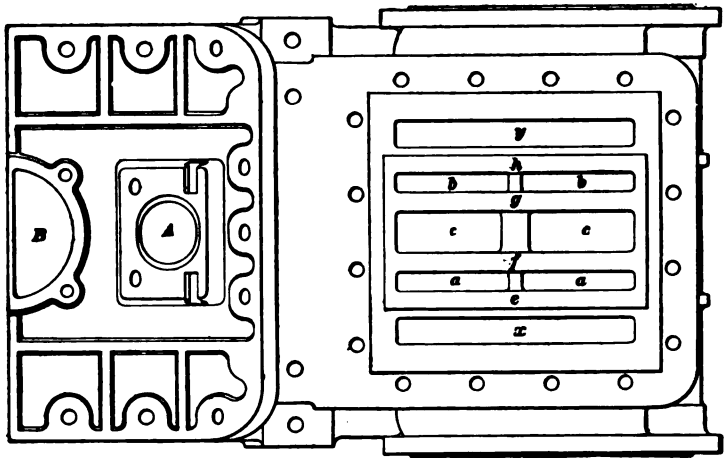
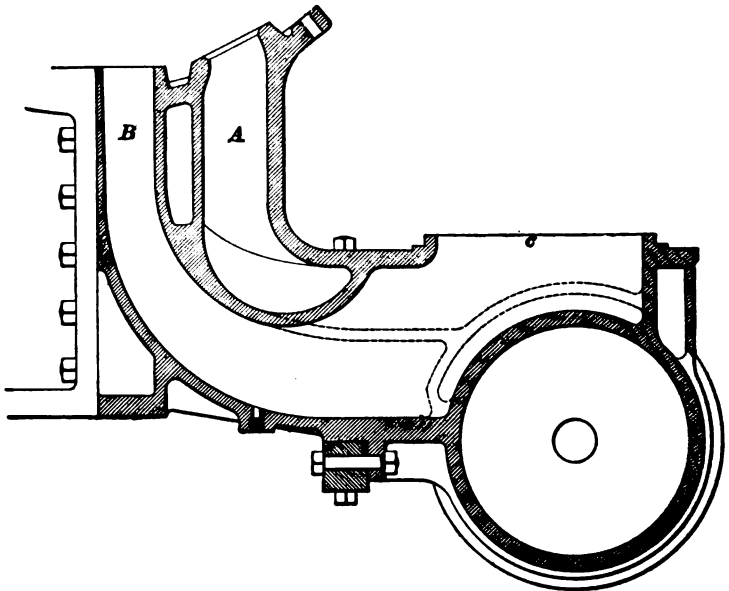

FIG. 8.
FIG. 9.
**12. Steam and Exhaust Passages.**—A plan of a half cylinder saddle and cylinder is shown in Fig. 8, in which the steam chest and also the slide valve are removed to show the valve seat. *A* is the end of one of the steam passages in the cylinder saddle, one of which leads to each cylinder; it connects with one of the steam pipes, and leads by means of two branches
Fig. 9 shows a section of a cylinder and half saddle, taken through the port  $c$  and the passages  $A$  and  $B$ , Fig. 8. It shows the exhaust passage  $B$  from the exhaust port  $c$  to the end that
former of which is situated between the exhaust port *c* and the supply port *x*, and the latter between the exhaust port *c* and the supply port *y* (see Fig. 8), have here been purposely omitted so as to make the figure clearer. It will be observed that steam passes from the steam pipe *A* to both of the supply ports *x* and *y*.
of the cylinder, respectively. The exhaust port *c* connects with the exhaust passage *B*, Fig. 8, which leads to the exhaust pipe, while the supply ports *x* and *y* connect with the steam passage *A* in the saddle, Fig. 8.